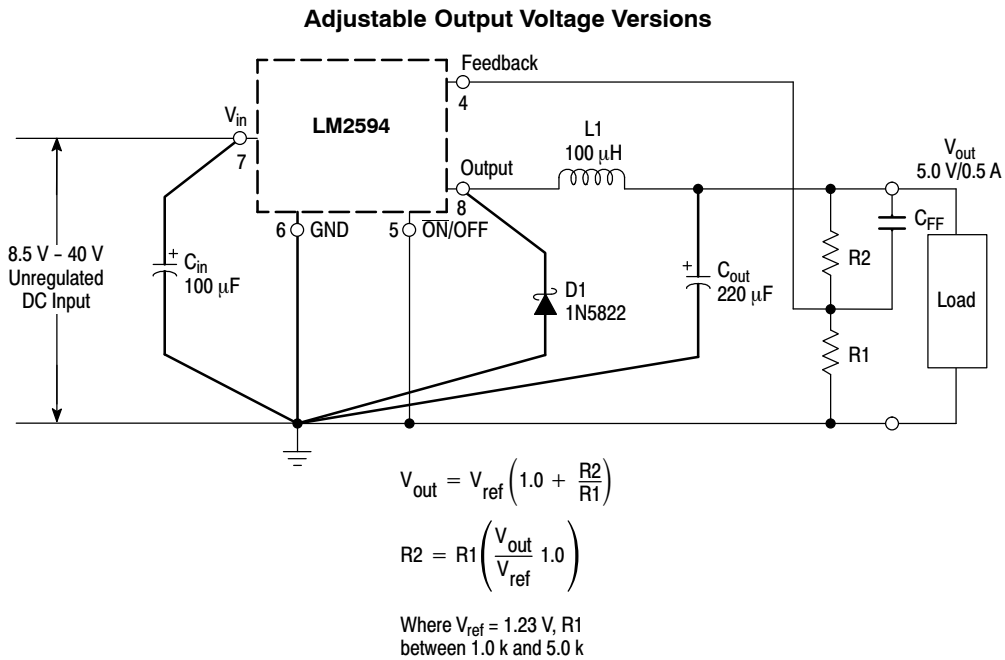

Figure 16. Typical Test Circuit
| LM2594 (Note 1, Test Circuit Figure 16)                                                                                               |               |                      |           |                      |               |
- External components such as the catch diode, inductor, input and output capacitors can affect switching regulator system performance. When the LM2594 is used as shown in the Figure 16 test circuit, system performance will be as shown in system parameters section.
## TYPICAL PERFORMANCE CHARACTERISTICS (Circuit of Figure 16)
TYPICAL PERFORMANCE CHARACTERISTICS (Circuit of Figure 16)
As in any switching regulator, the layout of the printed circuit board is very important. Rapidly switching currents associated with wiring inductance, stray capacitance and parasitic inductance of the printed circuit board traces can generate voltage transients which can generate electromagnetic interferences (EMI) and affect the desired operation. As indicated in the Figure 16, to minimize inductance and ground loops, the length of the leads indicated by heavy lines should be kept as short as possible.